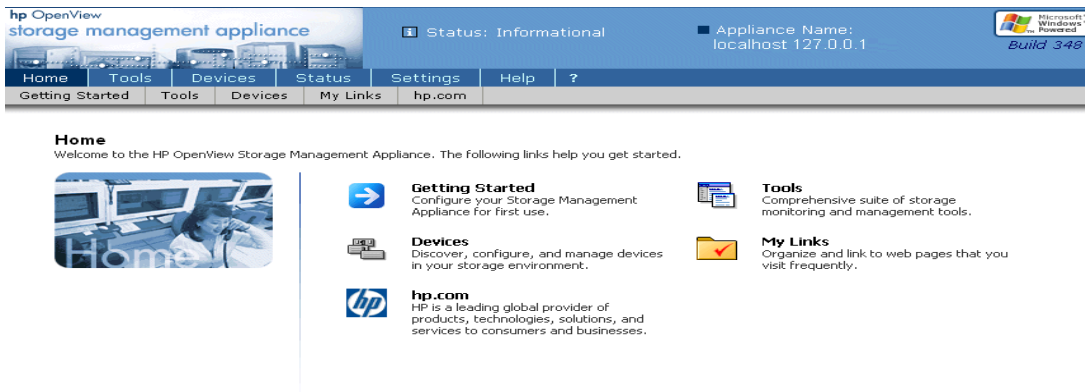

Figure 9: OpenView Storage Management Appliance Home page
To access Command View EVA, browse to the Storage Management Appliance and log in. The **Storage Management Appliance Home** page displays, as shown in Figure 9.
- Select **Devices** from the list of options in the Content pane (see Figure 9). The **Devices** page displays. Select **command view eva**.